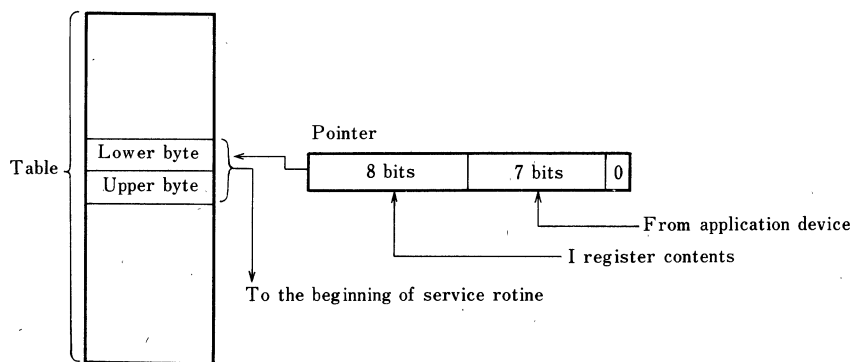

Fig. 1 Mode 2 interrupt diagram
**(1) Instruction Opcode Fetch**
The CPU places the contents of the Program Counter (PC) on the address bus at the start of the cycle (Fig. 1). Approximately one-half clock cycle later, MREQ goes active. When active, RD indicates that the memory data can be enabled onto the CPU data bus.